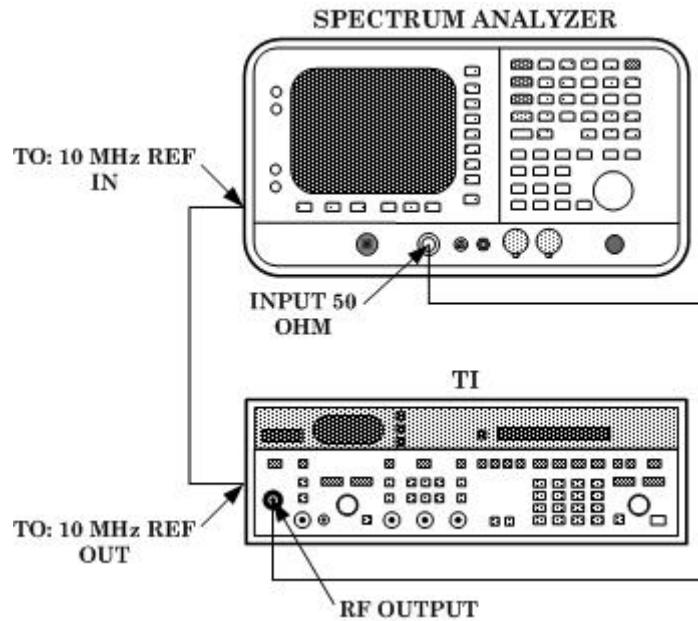

Figure 4. Harmonic, sub harmonic, multiples and non-harmonic spurious hookup.
- (1) Connect equipment as shown in figure 4 below.